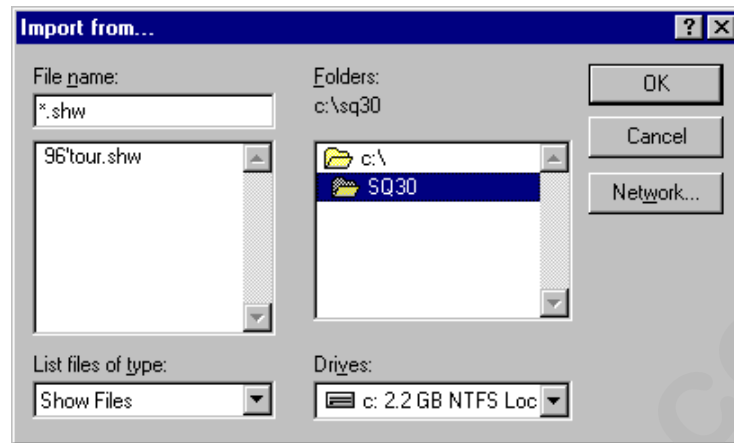

Figure 4.26. Import From... Dialogue Box
5. This brings up the **Import From...** dialogue box. Refer to Figure 4.26.